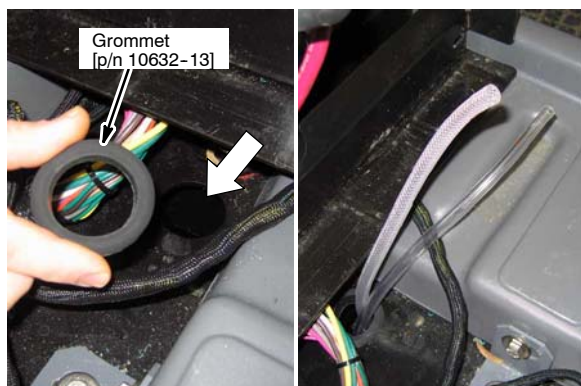

Fig. 30
1. Install grommet [p/n 10632-13] as shown and route the two *ec*-H₂O hoses up through the hole as shown (Figure 30).